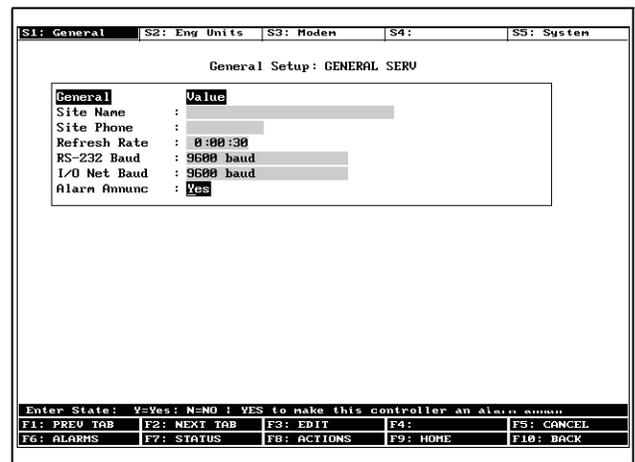

Figure 1-5 - Enabling Alarm Annunciator
3. Log into the Einstein and select **F8**, **Y** and **4** to enter the General Controller Information. See **Figure 1-5**.